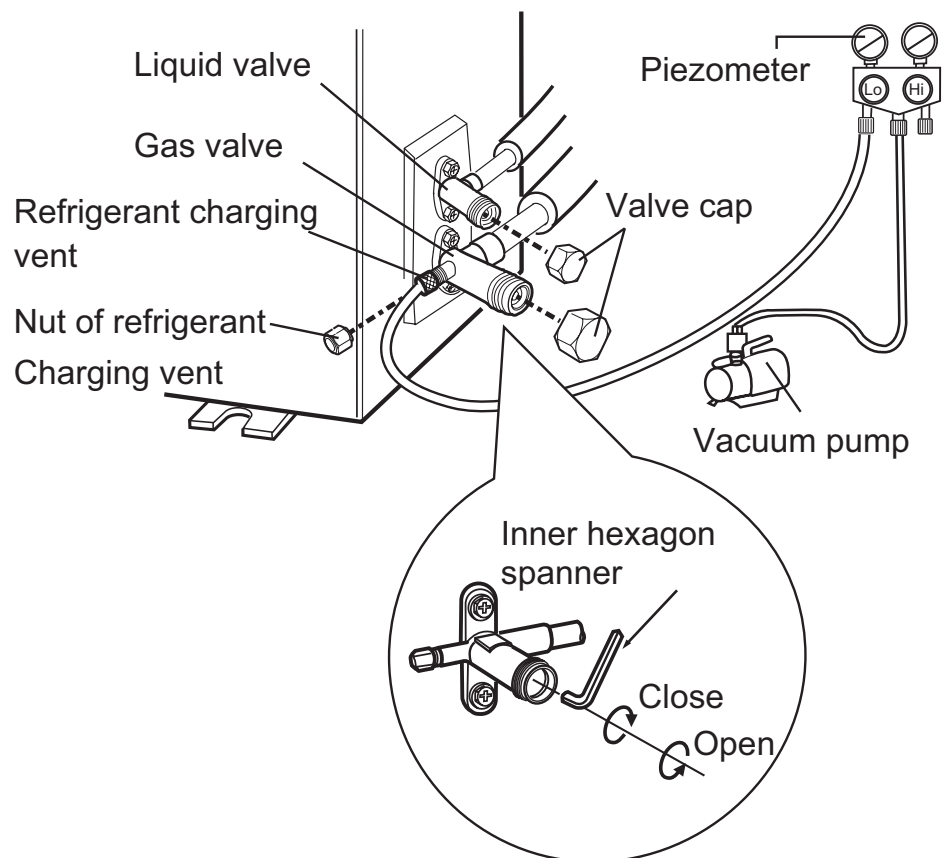

Fig.28
- (1) Remove the valve caps on the liquid valve and gas valve and the nut of refrigerant charging vent.
- (2) Connect the charging hose of piezometer to the refrigerant charging vent of gas valve and then connect the other charging hose to the vacuum pump.
- (3) Open the piezometer completely and operate for 10-15min to check if the pressure of piezometer remains in  $-0.1\text{MPa}$ .
- (4) Close the vacuum pump and maintain this status for 1-2min to check if the pressure of piezometer remains in  $-0.1\text{MPa}$ . If the pressure increases, there may be leakage.
- (5) Remove the piezometer, open the valve core of liquid valve and gas valve completely with inner hexagon spanner.
- (6) Tighten the screw caps of valves and refrigerant charging vent.(As shown in Fig.28)